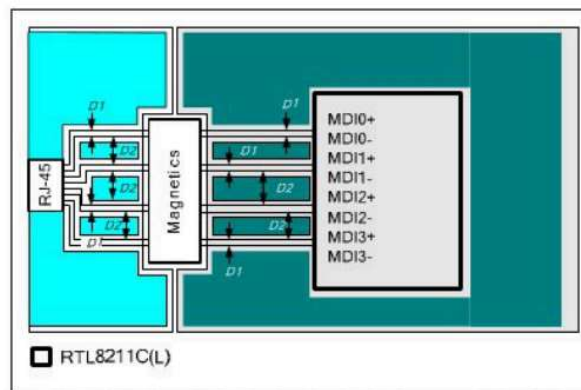

Figure 4. MDI Signals
The two traces of each pair should be placed close to each other (D1) since they are differential pair signals to each other and provide a strong cancelling effect on noise. D1 can be the width of each of the two differential traces. E.g., if the width of the trace is 8mil, then D1 can be 8mil wide (Figure 4).
- We suggest that there should be more than 30mil spacing between different differential pairs to minimize crosstalk coupled from other pairs (D2 in Figure 4). In addition, Ground Plane shielding can be used to separate all four signal pairs. However, a good layout should avoid the following situations: